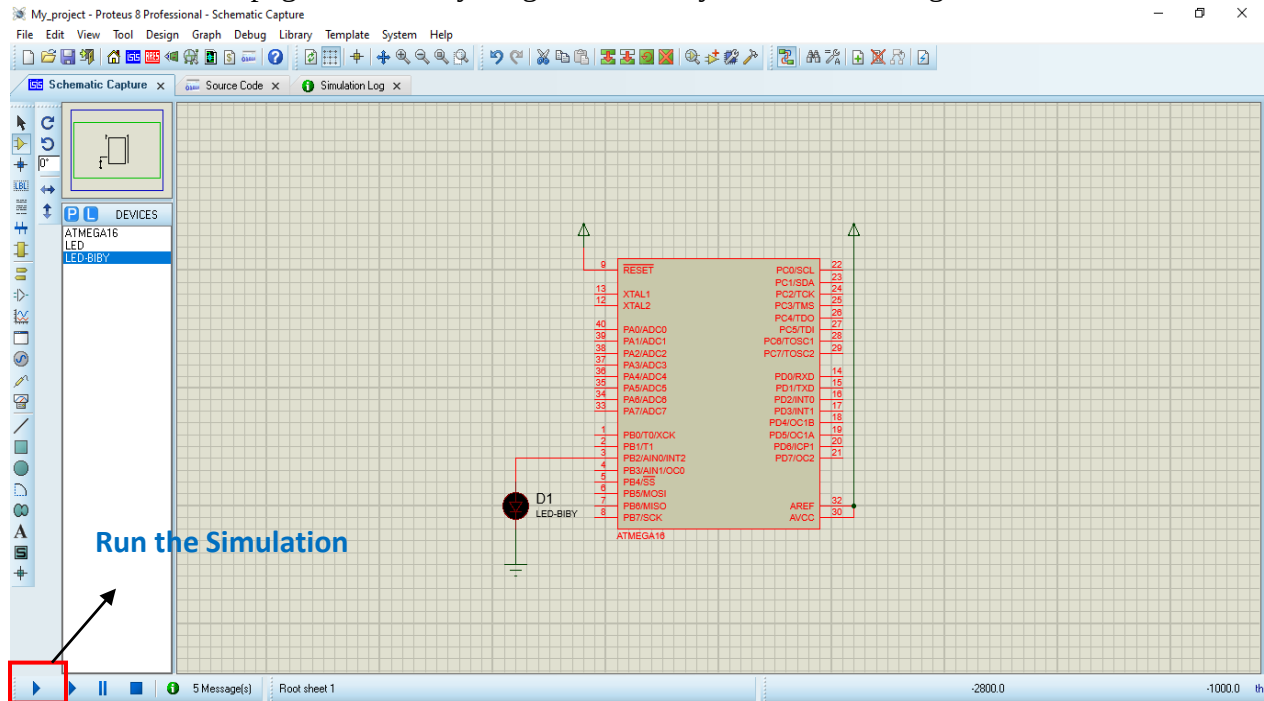

Figure 11: Run the Simulation
- Now you have loaded this program into the microcontroller Atmega16/Atmega32. You just have to simulate the program. Click on the play button in the bottom shown in figure 11, left corner of the page and if everything works fine, your LED should glow.